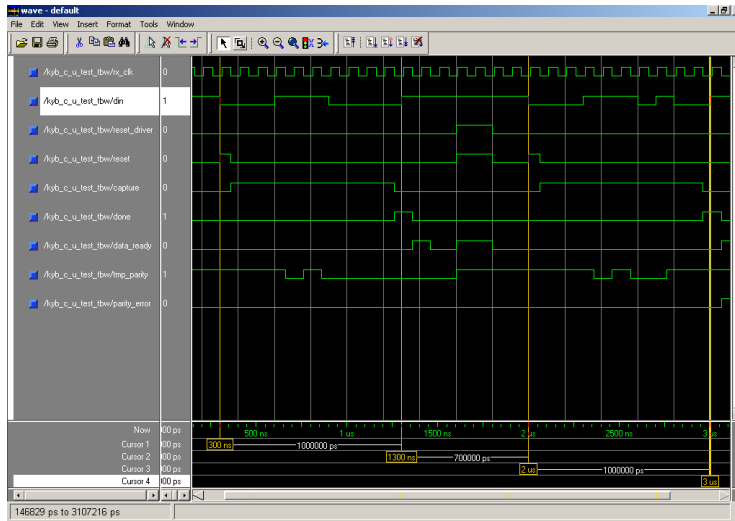
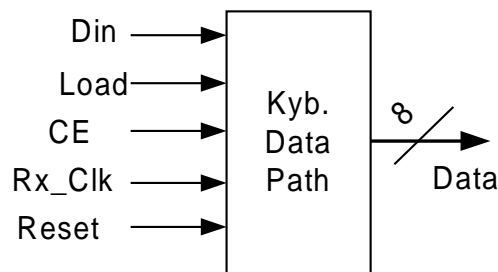
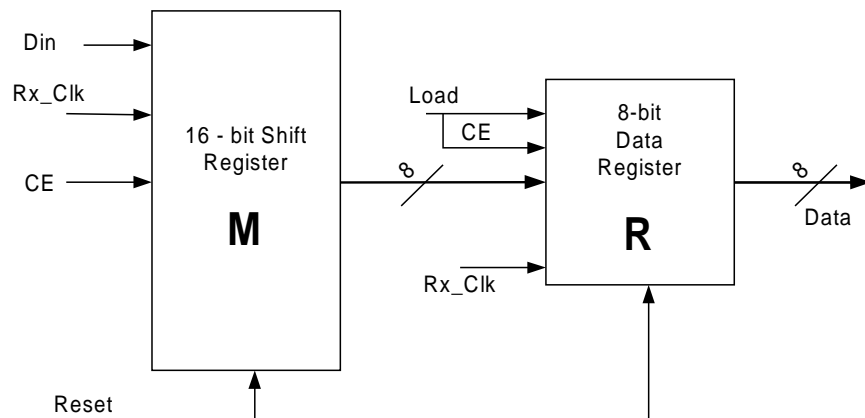

Figure 35
Figure 36
Figure 37
59. Create a test bench waveform similar to Figure 35 and make sure that your design generates valid results.
Figure 36 shows the interface of the data path unit. This unit consists of two internal components: a 16-bit negative edge triggered shift register (M) and an 8-bit positive edge triggered register (R). When the keyboard starts transmitting a bit sequence, the control path activates the shift register M to capture the incoming sequence (Figure 37). Note that each transmission contains eleven bits (start bit + 8-bits of data + parity + stop bit). The shift register captures the whole sequences and at the end of the transmission passes the 8-bits of data to register R. The clock signal is provided by the keyboard, thus the timing is extremely important in this design. The content of the shift register must be loaded into register R on the rising clock edge of the clock (stop bit) as shown in Figure 35. Note that *Done* signal is activated at the falling edge of the clock followed by a rising edge of the clock that must be used to load the data into R. Here we describe the IO interface of the data path unit in detail.
CE: Clock enable input for the data path unit which controls the clock enable of the shift register M. The clock enable of the register R is controlled by the control path as shown in Figure 37.
68. Use Figure 36 and Figure 37 as a guideline to design the control path for this system. Note that the receiver receives the bits in the reverse order.